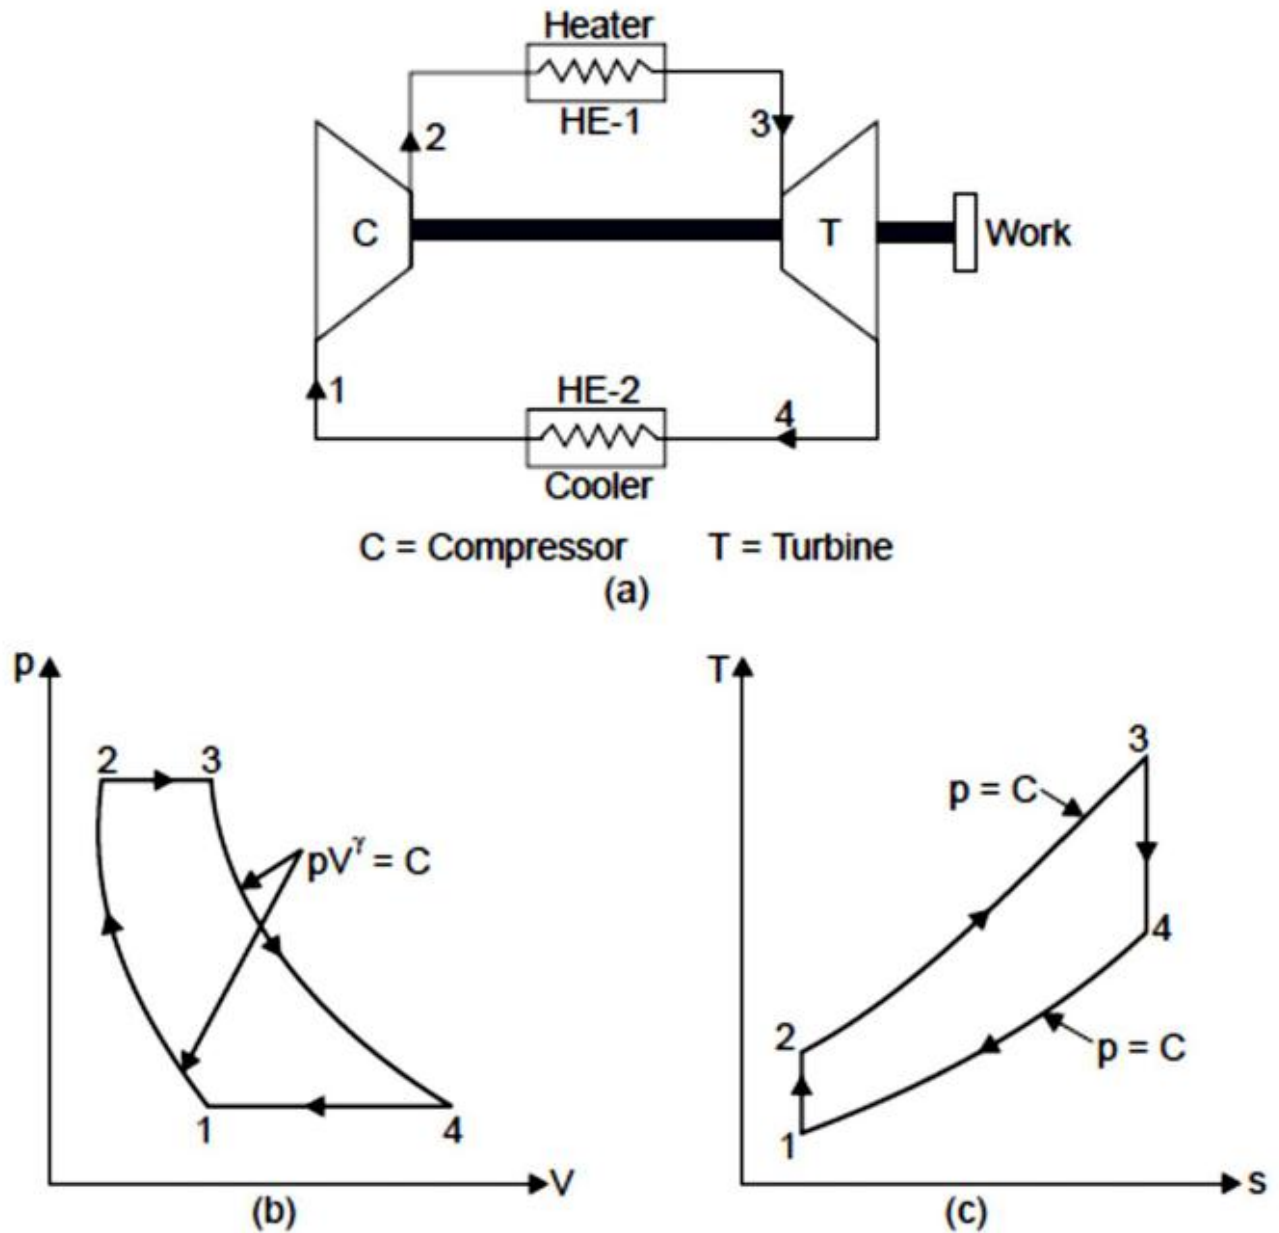

Fig. 7.11 The P-v, T-s and Schematic diagram of Brayton cycle
- The closed Brayton cycle is shown in the Fig. 7.11 (a) and it is represented on p-v and T-s diagrams as shown in Figs. 7.11 (b) and (c) respectively.